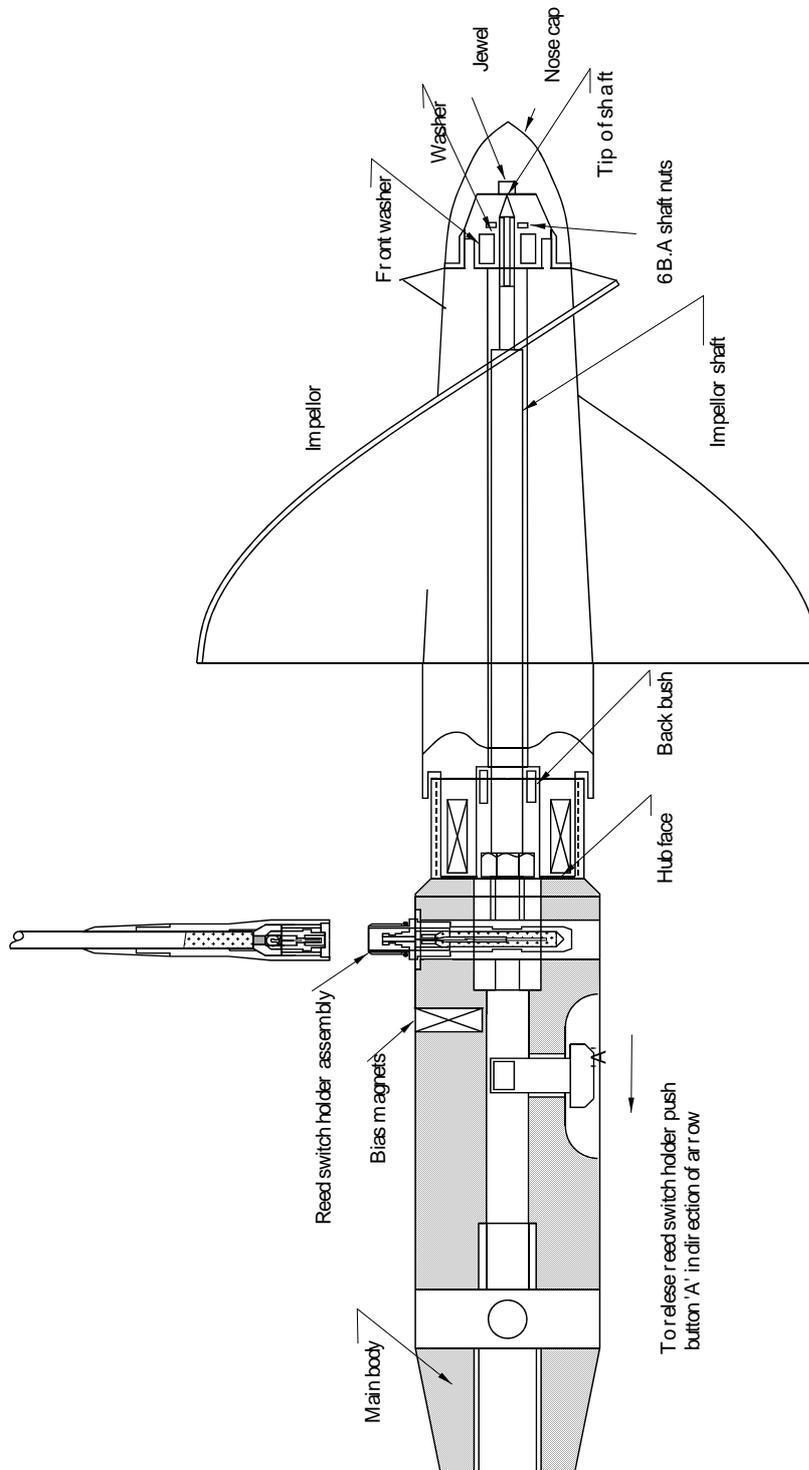

Figure 1 - Sectional Diagram BFM001
8.1. Figure 1 - Sectional Diagram BFM001